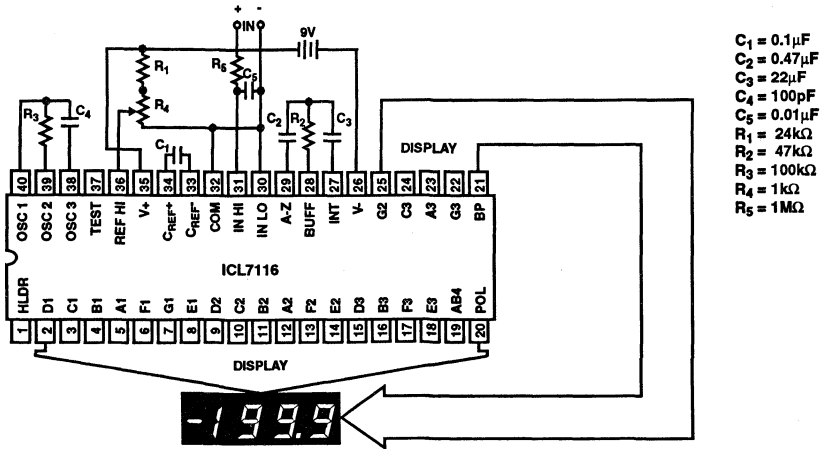

FIGURE 1. ICL7116 TEST CIRCUIT AND TYPICAL APPLICATION WITH LCD DISPLAY COMPONENTS SELECTED FOR 200mV FULL-SCALE
- Unless otherwise noted, specifications apply to both the ICL7116 and ICL7117. ICL7116 is tested in the circuit of Figure 1. ICL7117 is tested in the circuit of Figure 2.